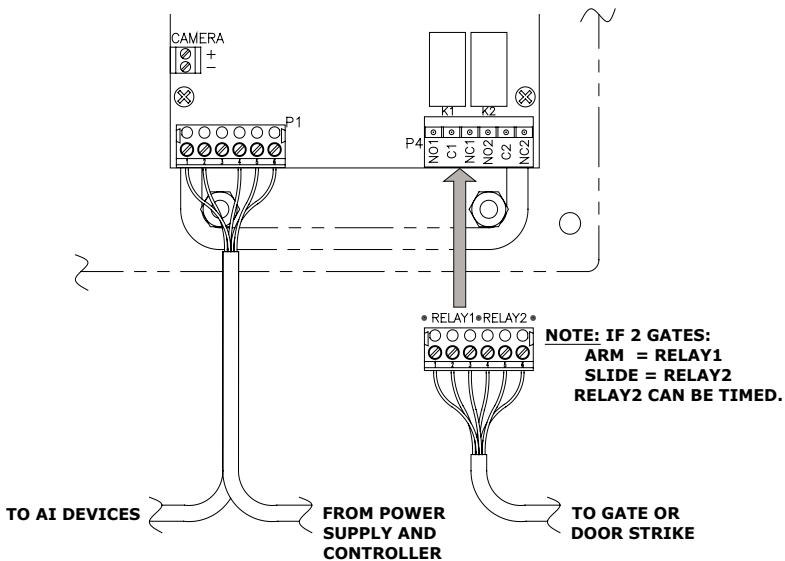

Figure 20
- Gate Operator.** Most gate operators use a single dry contact to trigger the gate to open. See Figure 20 for details on connecting a gate operator to the APEX.